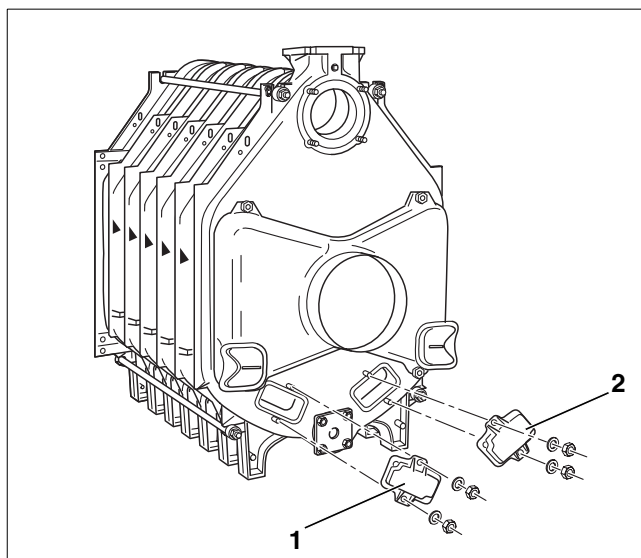

Fig. 27 Assembly – Fitting cleaning covers
- If the cleaning covers were removed to allow the assembly frame to be fastened to the rear section, they should now be screwed back onto it with nuts and washers (Fig. 27, ref. 1 and 2).